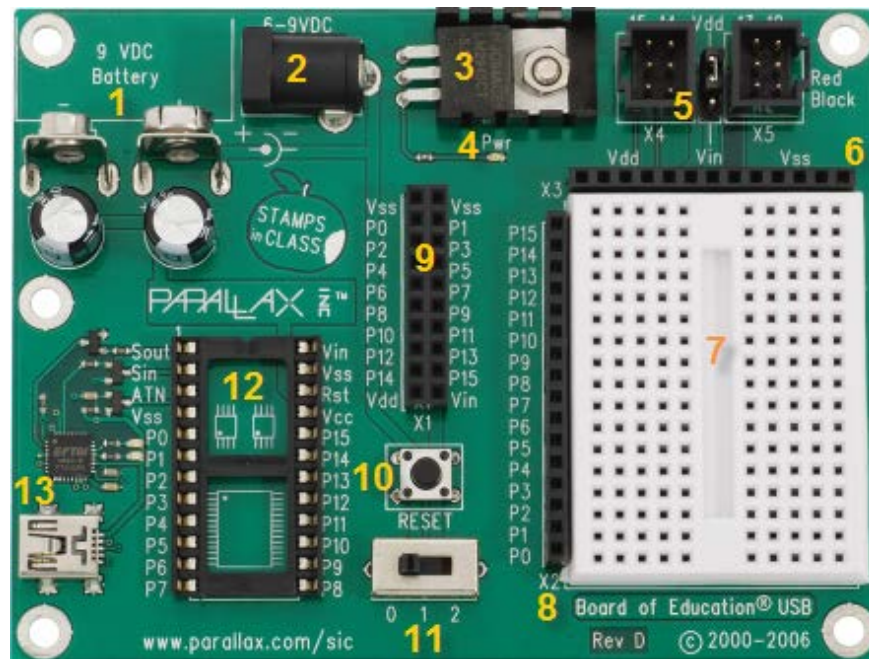

Fig. 1. Parallax Boe-Bot Development Board and its parts
In the **Basic Stamp Editor**, click on '**Help→Getting Started→Identify Your Board**'. Locate '**Board of Education – USB**' and click on the arrow that is labeled as '**NEXT**'. You will be taken to a page where you will be able to see the description of the various parts of the development board shown in Fig. 1. At the top of this page, you should be able to locate several icons. Move the cursor over the icons and when you find the icon that says 'Expand all', click on that icon. Read the information provided and bookmark the page for later reference.
1. Connect the battery holder (it holds 4 AA batteries) to the part number **2** on the board (see Fig. 1) using the cable attached to the battery holder.
3. After you have connected the battery pack to the board, take the USB cable and connect the broad end of the cable to a USB drive on your computer. Connect the narrow end to part number **13** on the board (see Fig. 1).